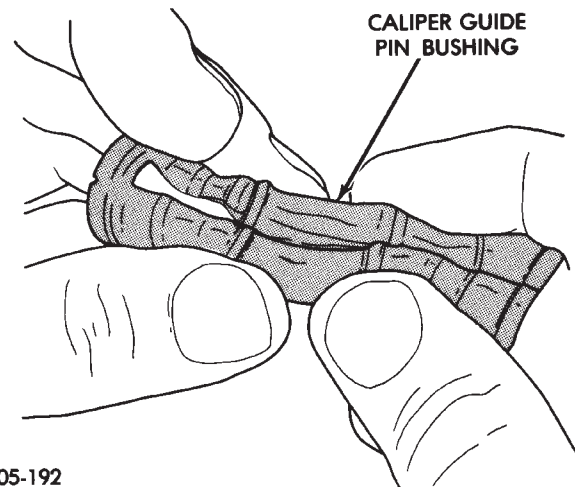

Fig. 155 Folded Caliper Guide Pin Bushing
(1) Fold the bushing in half lengthwise at the solid middle section of the bushing (Fig. 155).